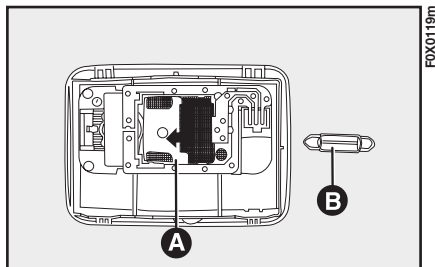

fig. 139
- open the metal cover A-fig. 139 in the direction of the arrow;